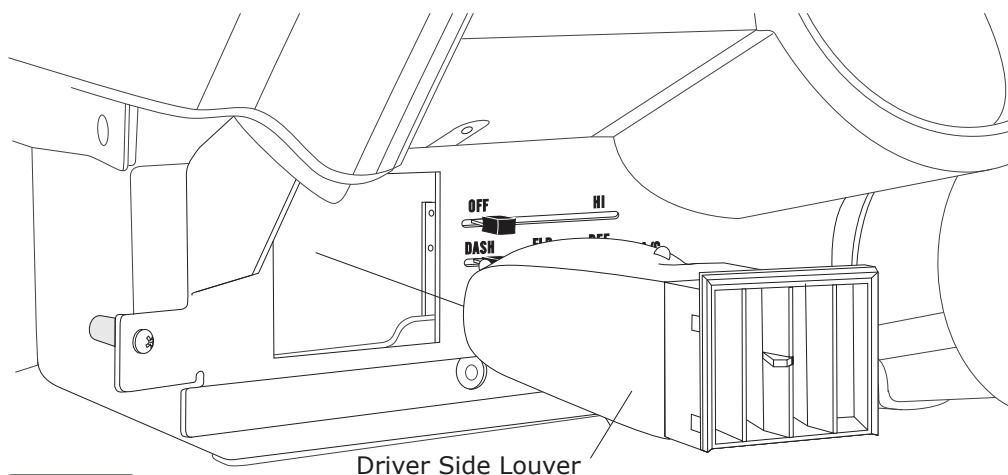

Figure 8
1. Install driver side louver as shown in Figure 8, below.